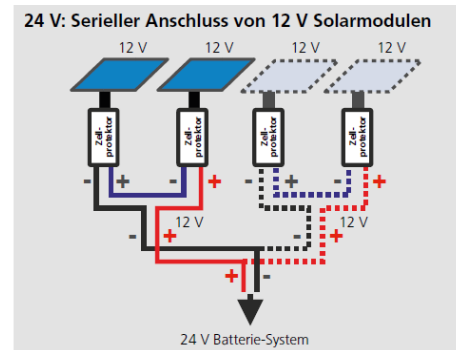

figure 3
7. In a 24 Volt-System connect the two panels like shown in figure 3.